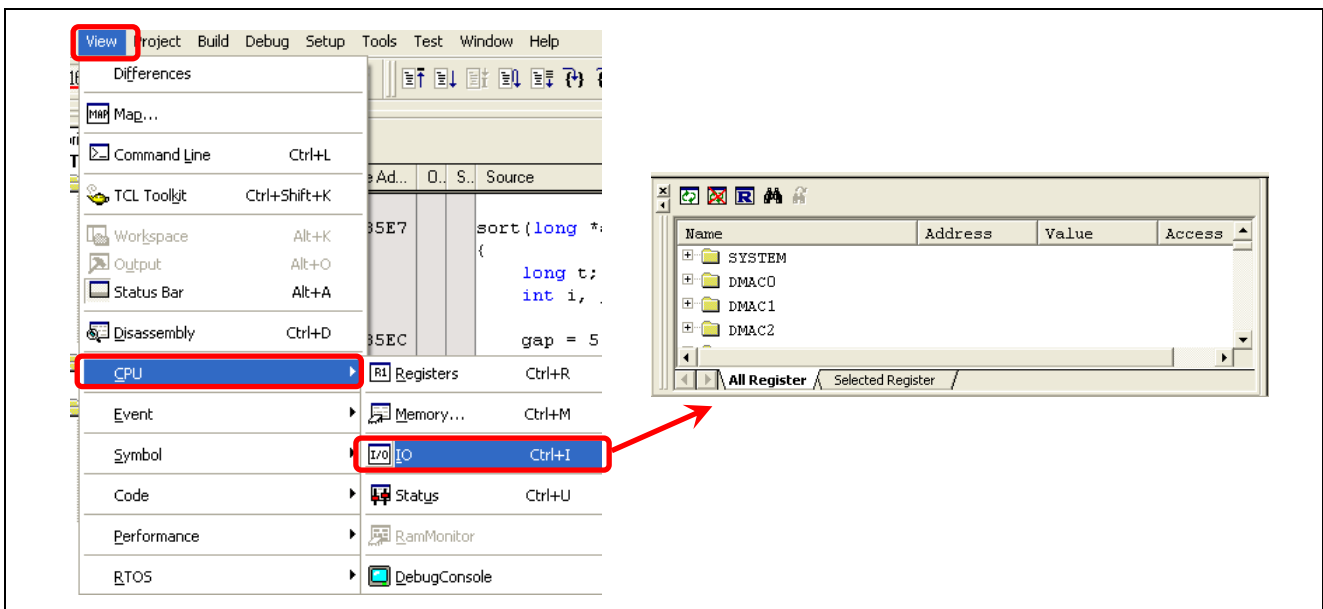

Figure 4.48 Opening the [I/O] Window
(1) Select [View -> CPU -> I/O] as shown in Figure 4.48 to open the [I/O] window.